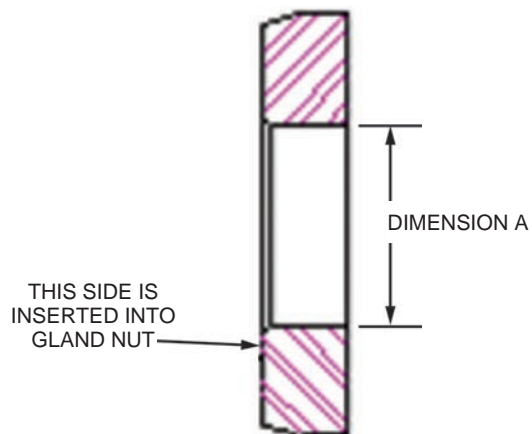

Fig. 73: Guide Bushing Check (40K Only)
2. On 40K units, measure the diameter of the guide bushing. Refer to Dimension A in Fig. 73. If the diameter exceeds the Dimension A specification listed in "Table 1", replace the bushing. If the bushing shows scoring or if the edge is chipped, replace the bushing.